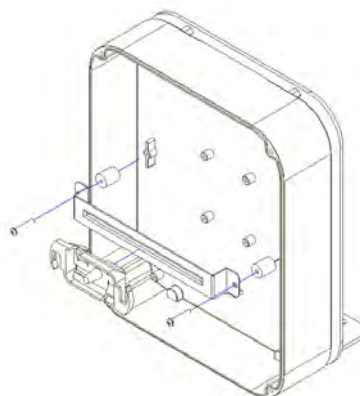

Figure 3
Step 3b - (For Aruba Networks and other APs) Install the AP per the manufacturer's T-Bar installation instructions (Figure 3). The T-Bar Bracket may be positioned to orient the AP as desired (Figure 3).